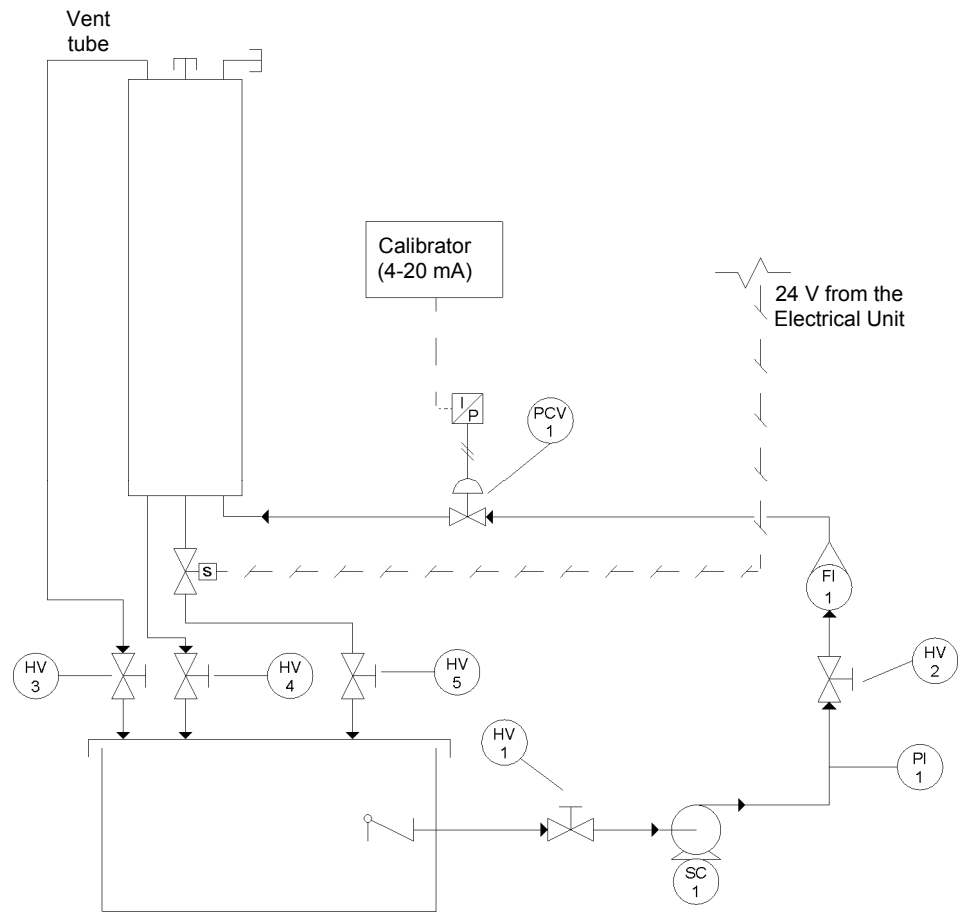
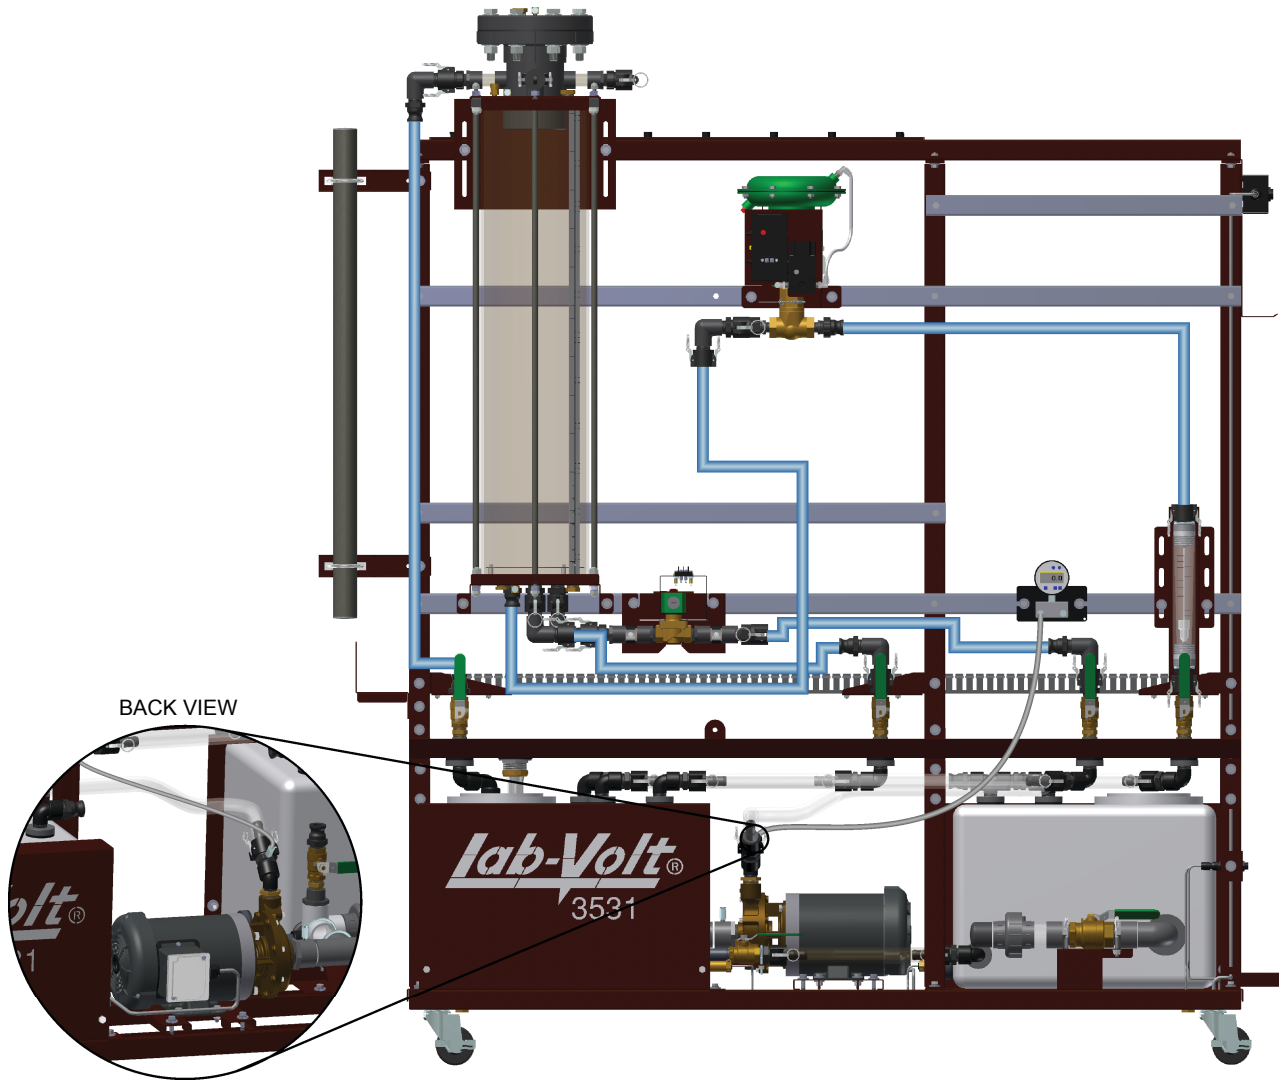

Figure 3-19. P&ID.
Figure 3-20. Setup.
1. Connect the equipment as the piping and instrumentation diagram (P&ID) in Figure 3-19 shows and use Figure 3-20 to position the equipment correctly on the frame of the training system. Use the basic setup presented in the *Familiarization with the Training System* manual. Table 3-1 lists the equipment you must add to the basic setup in order to set up your system for this exercise.